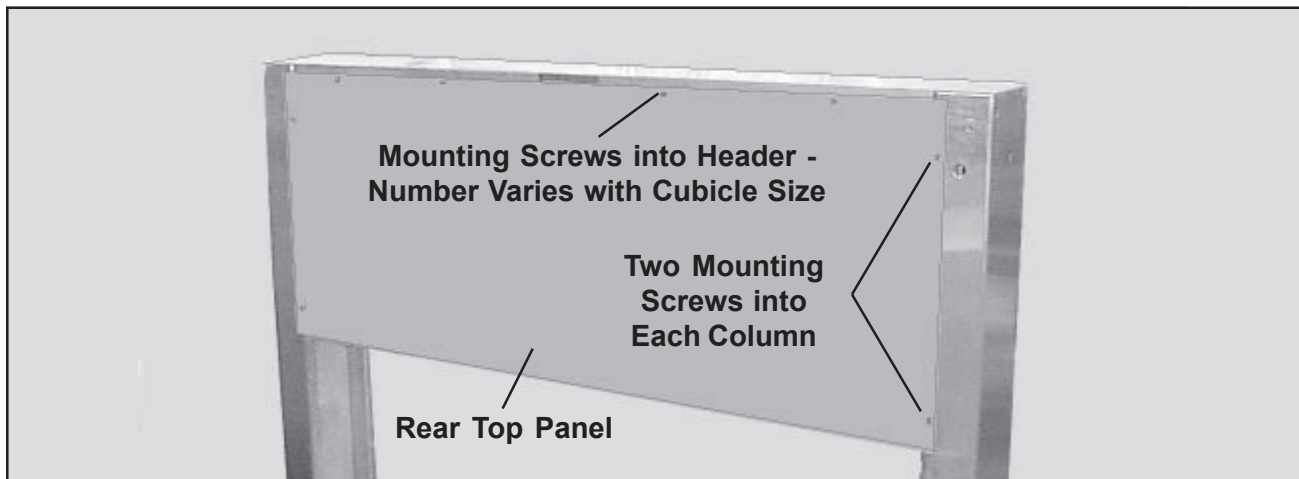

Figure 16. Rear View of Cubicle Showing Mounting of Rear Top Panel
1. Hold the rear top panel in place against the rear of the header and columns (Figure 16).